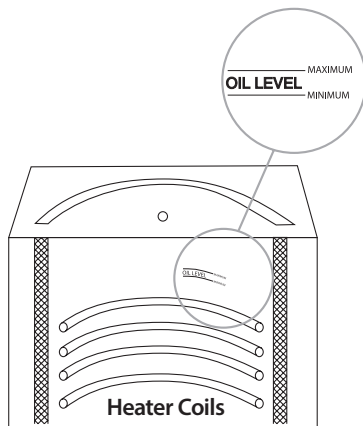

FIGURE 4
5. **Add Cooking Oil** - Liquid or solid cooking oil may be used. Melt solidified cooking oils in tender or other means and pump into fryer. Add enough cooking oil to raise liquid to within one inch of Minimum oil level line (see Figure 4, page 13). As oil heats, it expands. Check level again once oil has heated to verify that level is between Minimum and Maximum marks.
Fire or heater damage may occur when heaters are turned ON unless they are fully covered with cooking oil.>>Do not turn on power unless all heater coils are completely covered by cooking oil. Fill shortening to a level between the Maximum and Minimum oil level lines found on the inside of the cookpot (see Figure 4).
16. Oil Level - Add or remove cooking oil so that it is at a level between the Maximum and Minimum Level marks. (Figure 4).